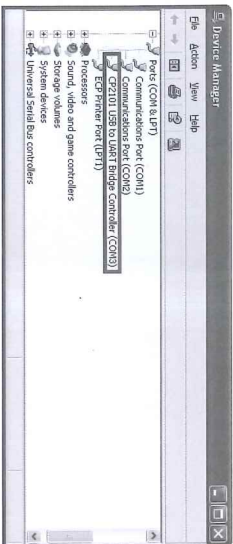

Fig.11
- (10) Choose "Hardware" option and click "Device Manager" button, click "+" symbol on the left side of Ports(COM &LPT), if the device "CP2101 USB to UART Bridge Controller(COMx)" is in the list, the connector is ready to work.(see Fig.11)